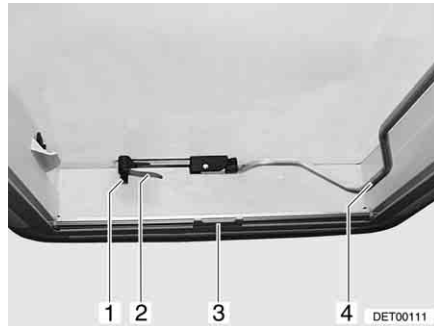
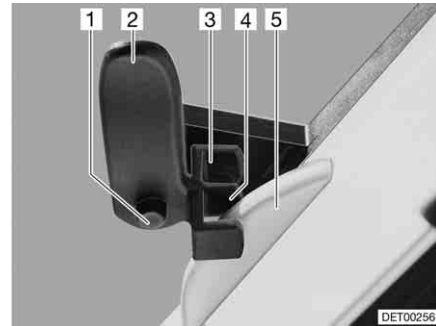

Fig. 64 Heki skylight, closed
Fig. 65 Heki skylight in ventilation position 1
Opening: ■ Press the safety knob (Fig. 64,1) and turn the catch lever (Fig. 64,2) one quarter turn inward.
■ Pull the bar (Fig. 64,4) downwards out of the latch.
Closing: ■ Pull the bar (Fig. 64,4) downwards out of the latch.
■ Turn the catch lever (Fig. 64,2 and Fig. 65,2) one quarter turn. The hook of the roof lock (Fig. 65,5) must engage in the upper locking fork (Fig. 65,3).
■ Press the safety knob (Fig. 65,1) and turn the catch lever (Fig. 65,2) back. The hook of the roof lock (Fig. 65,5) must engage in the lower locking fork (Fig. 65,4).